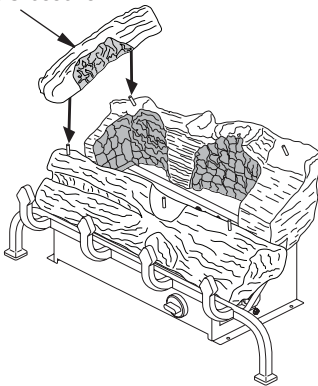

Figure 19 - Installing Left Crossover Log
4. Place the left crossover log as shown in Figure 19. The bottom of the log is marked with a "L" for left. Match round peg on left side of top of rear log with round hole in bottom of left crossover. Match square peg on left side of top of front log with square hole in bottom of left crossover log.